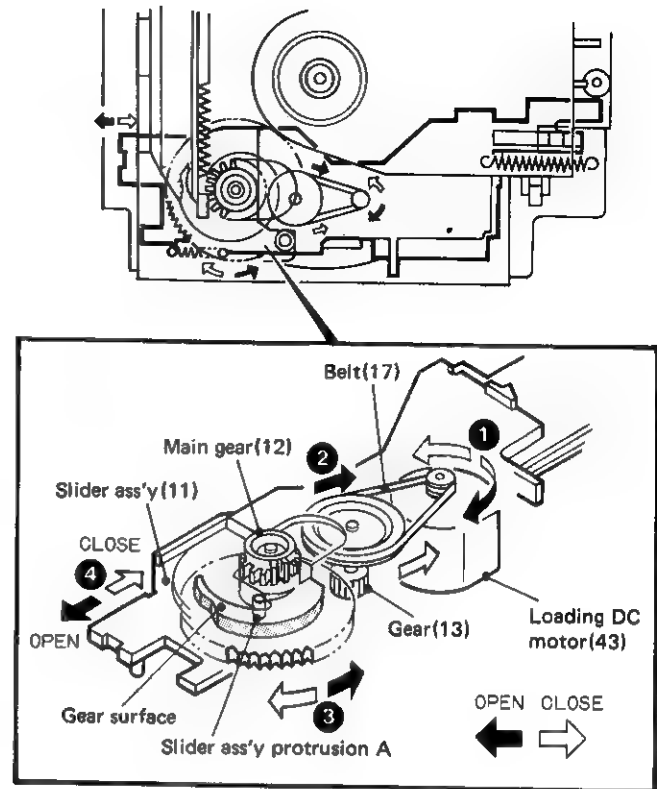
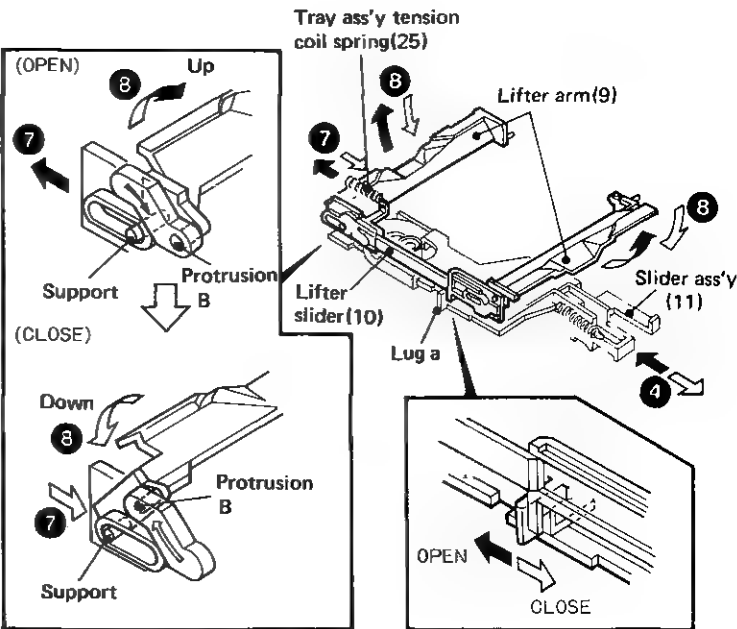

Fig. 2 Loading motor rotation transmission
Fig. 5 Lifter arm up/down operation
As shown in Fig. 2, loading DC motor (43) rotates in the direction of the black arrow ① and transfers the rotation of the black arrow ② to the gear (13) via the belt (17), and also rotates the main gear (12) in the direction of the black arrow ③ with the lower gear section of the gear (13). The main gear (12) contains the cam on its upper surface. Along with the surface of the cam, protrusion A located in the lower side of the slider ass'y (11) is shifted and the slider ass'y (11) begins to move in the direction of the black arrow ④.
Fig. 5 shows the OPEN operation until the disc is lifted from the turntable and placed on the disc tray so that the disc is removed from the player. These operations are performed almost at the same time as the up operations of the clamber arm(8) when the tray is opened as described in Fig. 2 to 4 above.